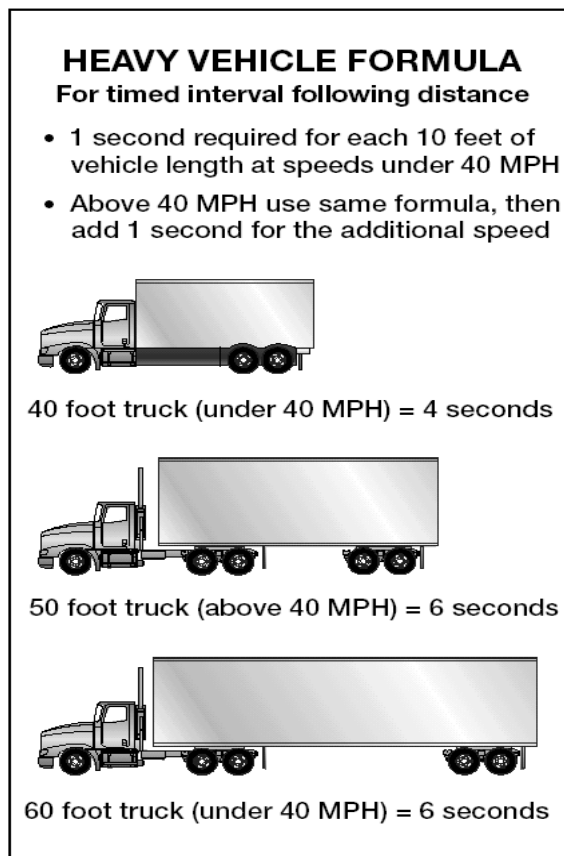

Figure 2.12
**The Need for Space Ahead.** You need space ahead in case you must suddenly stop. According to accident reports, the vehicle that trucks and buses most often run into is the one in front of them. The most frequent cause is following too closely. Remember, if the vehicle ahead of you is smaller than yours, it can probably stop faster than you can. You may crash if you are following too closely. **How Much Space?** How much space should you keep in front of you? One good rule says you need at least one second for each 10 feet of vehicle length at speeds below 40 mph. At greater speeds, you must add 1 second for safety. For example, if you are driving a 40-foot vehicle, you should leave 4 seconds between you and the vehicle ahead. In a 60-foot rig, you'll need 6 seconds. Over 40 mph, you'd need 5 seconds for a 40-foot vehicle and 7 seconds for a 60-foot vehicle. See Figure 2.12.